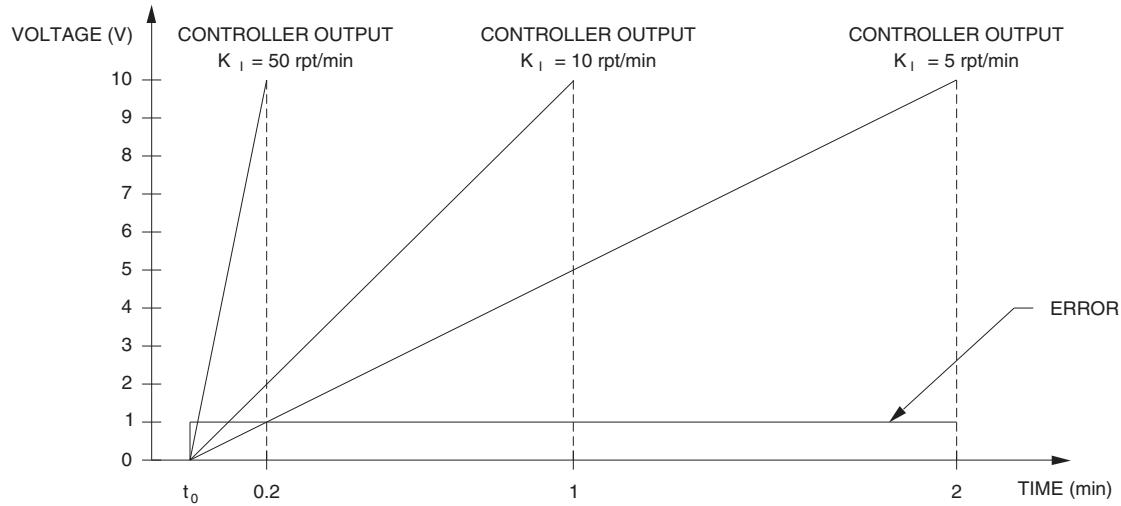

Figure 5-3. Output signal of an integral controller in the open-loop mode when the error changes suddenly.
Figure 5-3 shows the output signal of an integral controller for different integral gain settings when the error changes suddenly. The controller is in the open-loop mode. The integral action causes the error signal to be transformed into a gradually changing signal at the controller output. The greater the integral gain  $K_I$ , the greater the rate of change of the controller output.
- With a gain of 5 rpt/min, the 1.0-V error magnitude is duplicated 5 times in 1 min. This means the controller output will be 5.0 V after 1 min (see Figure 5-3);